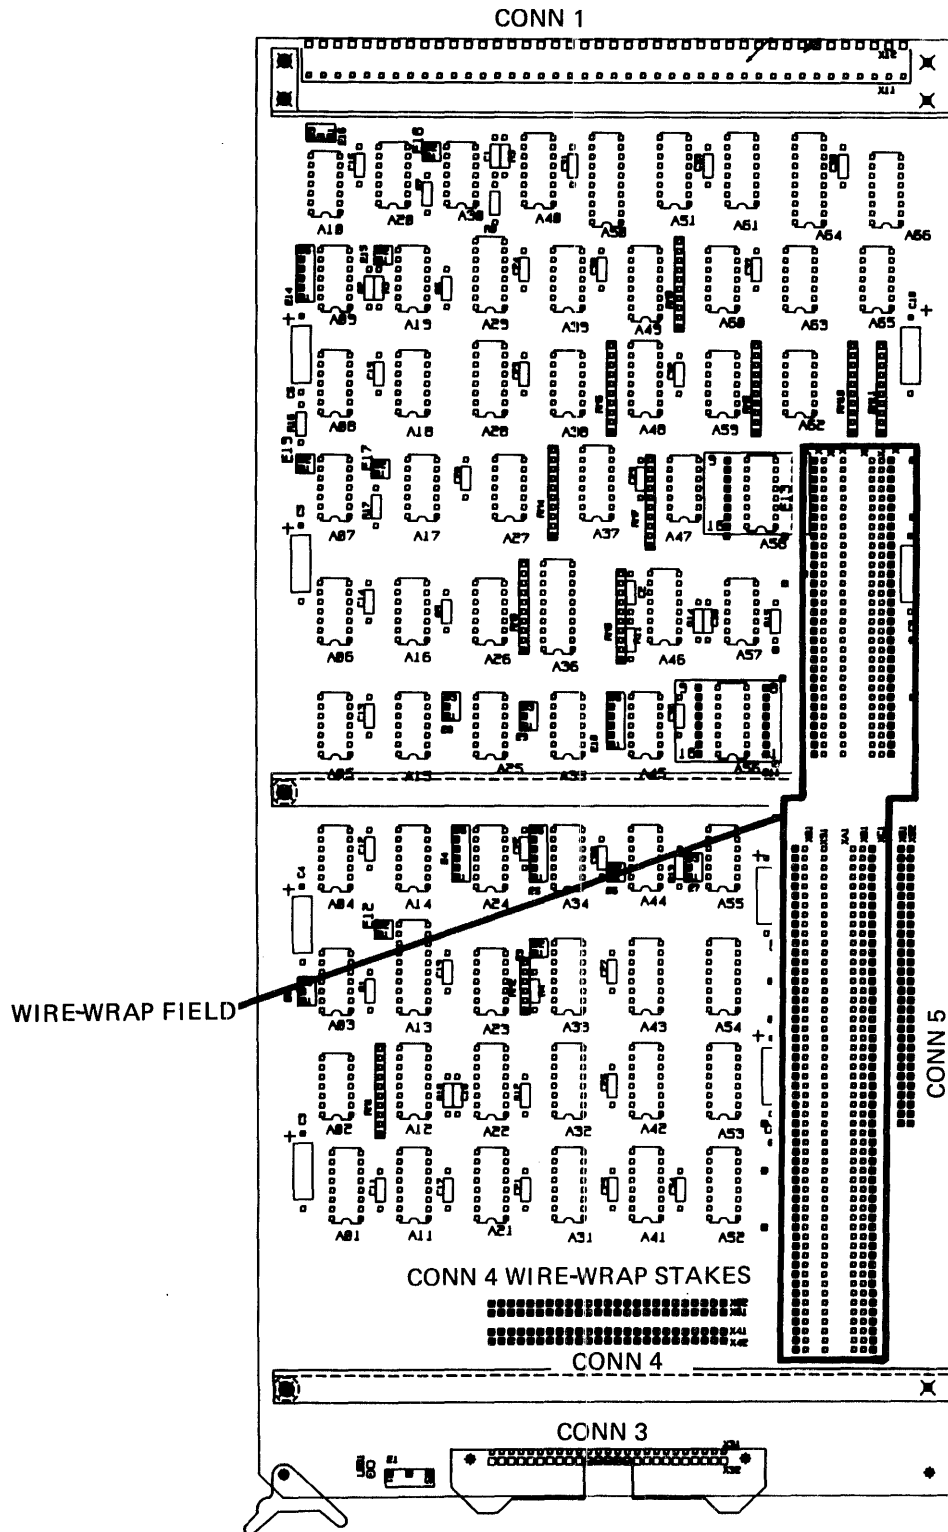

Figure 2-9 Component Side Wire-Wrap Field
The component side of the ULI contains a small universal wire-wrap field. This field can accommodate any size integrated circuit (IC) up to 48 pins or discrete components (resistors, capacitors and diodes) to build a user device controller to interface to the system. The wire-wrap field layout for the component side of the ULI is shown in Assembly Drawing 35-860 and Figure 2-9.